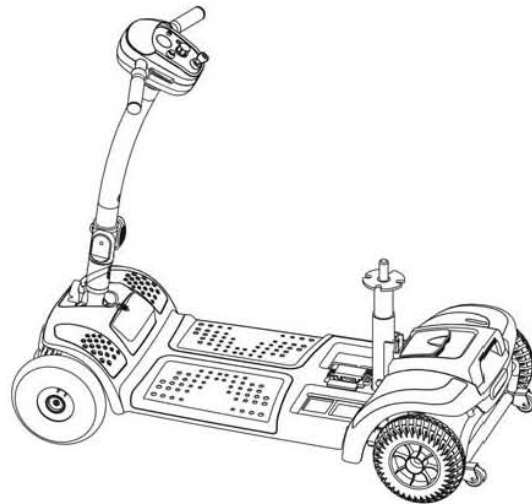

Fig. 2
3. Put down the front and rear sections until the scooter is level. (See Fig. 2)